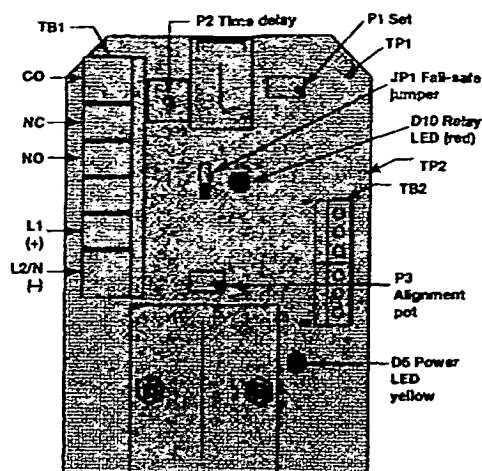
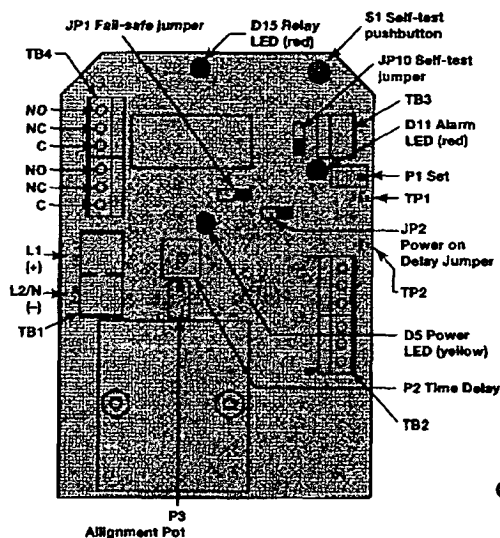

Figure 5A
Figure 5B
4. Connect power leads to proper terminals of the black terminal block. Refer to Figure 5A for TDF/TDL or 5B for TSF/TSL electronics.
5. Perform Relay Connections (refer to Figure 5A for TDF/TDL or Figure 5B for TSF/TSL electronics).